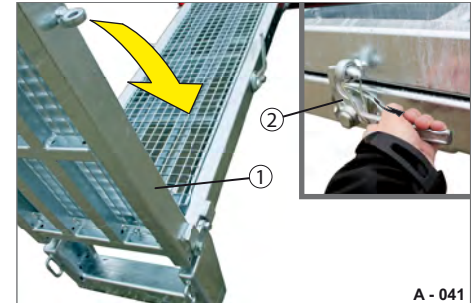

Fig. 43 Raising the drive-up ramp, two-piece
- ▶ If necessary, open the rotary lever latch (Fig. 43/2).
- ▶ Fold in the top section (Fig. 43/1) of the ramp.
- ▶ Close the rotary lever latch (Fig. 43/2):